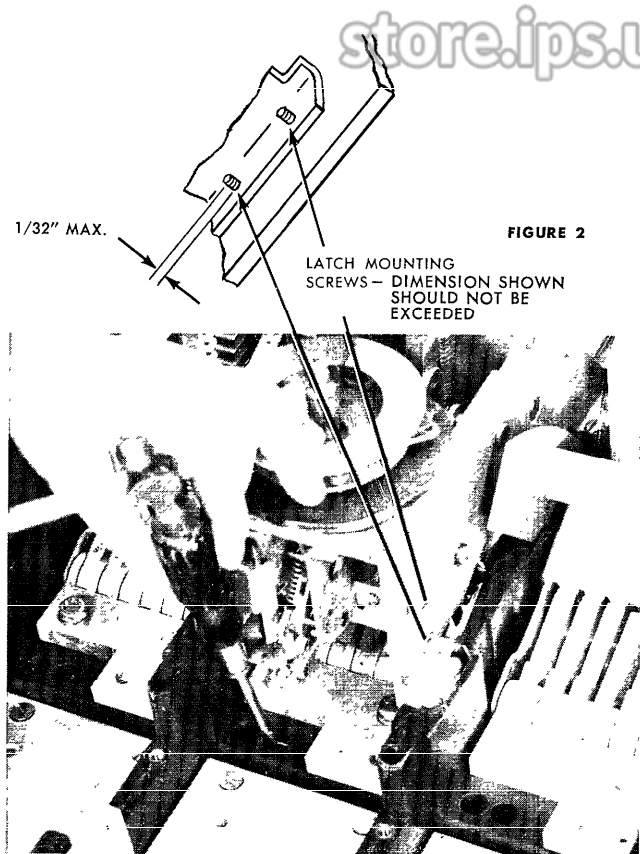

Fig. 2. Center-pole knockout removal
2. Remove the right-hand center pole knockout as shown in Fig. 2.